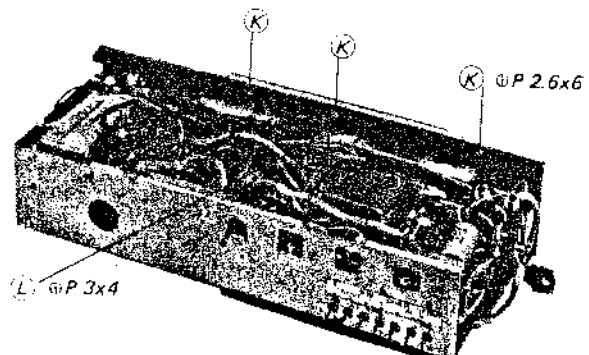

Fig. 2-7
8. Remove the three screws (Ø P 2.6x6) marked (I) and the screw (Ø P 3x4) marked (L) in Fig. 2-7.